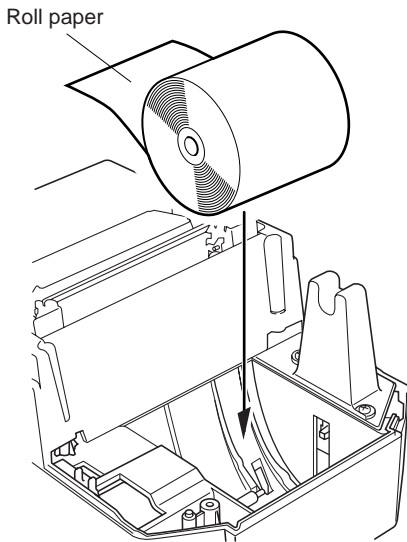

Fig. 6-5 Setting the paper
- ④ While observing the direction of the roll, set the paper roll into the hollow as shown in Fig. 6-5.
- ⑤ Insert the edge of the paper into the paper feeder. If inserted correctly, the edge of the paper will pass through the paper exit.
- ⑥ Insert the top edge of the paper into the tear bar slot, then mount the cover by reversing the procedure for removing the cover in step ① above.